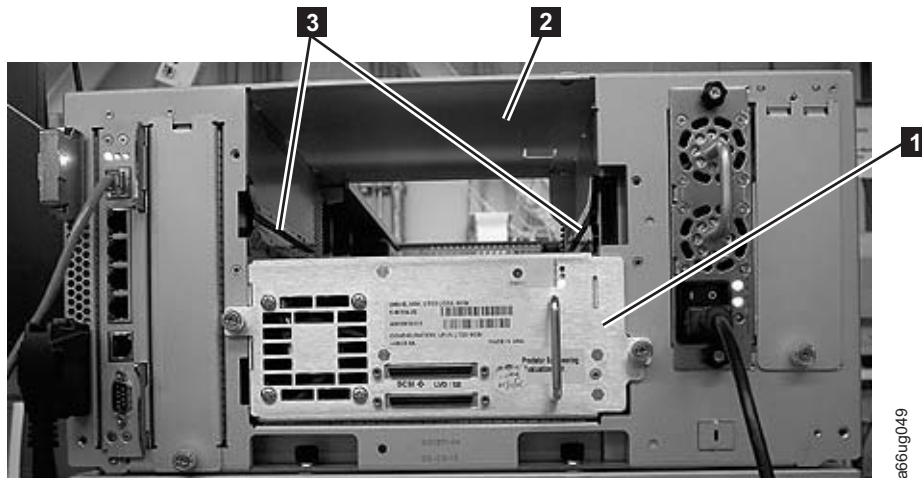

Figure 3-36. Guide rails and guide slots inside a drive slot
1. Align the drive sled with the guide rails and guide slots along the tracks (**3** in Figure 3-36).